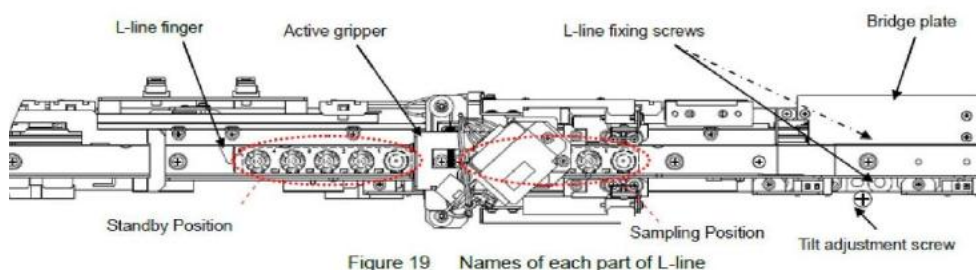

Figure 19 Names of each part of L-line
- Place **Jig (2)** in Pos. 1 of the Rack and set the Rack into the Standby Position of L-Line (Figure 19)
- Adjust the tip end of S Nozzle in the center of the hole of **Jig (2)** by using the tilt adjustment screw and the Pulse adjustment button in the SSW.
- Attach **Jig (1)** onto **Jig (2)**